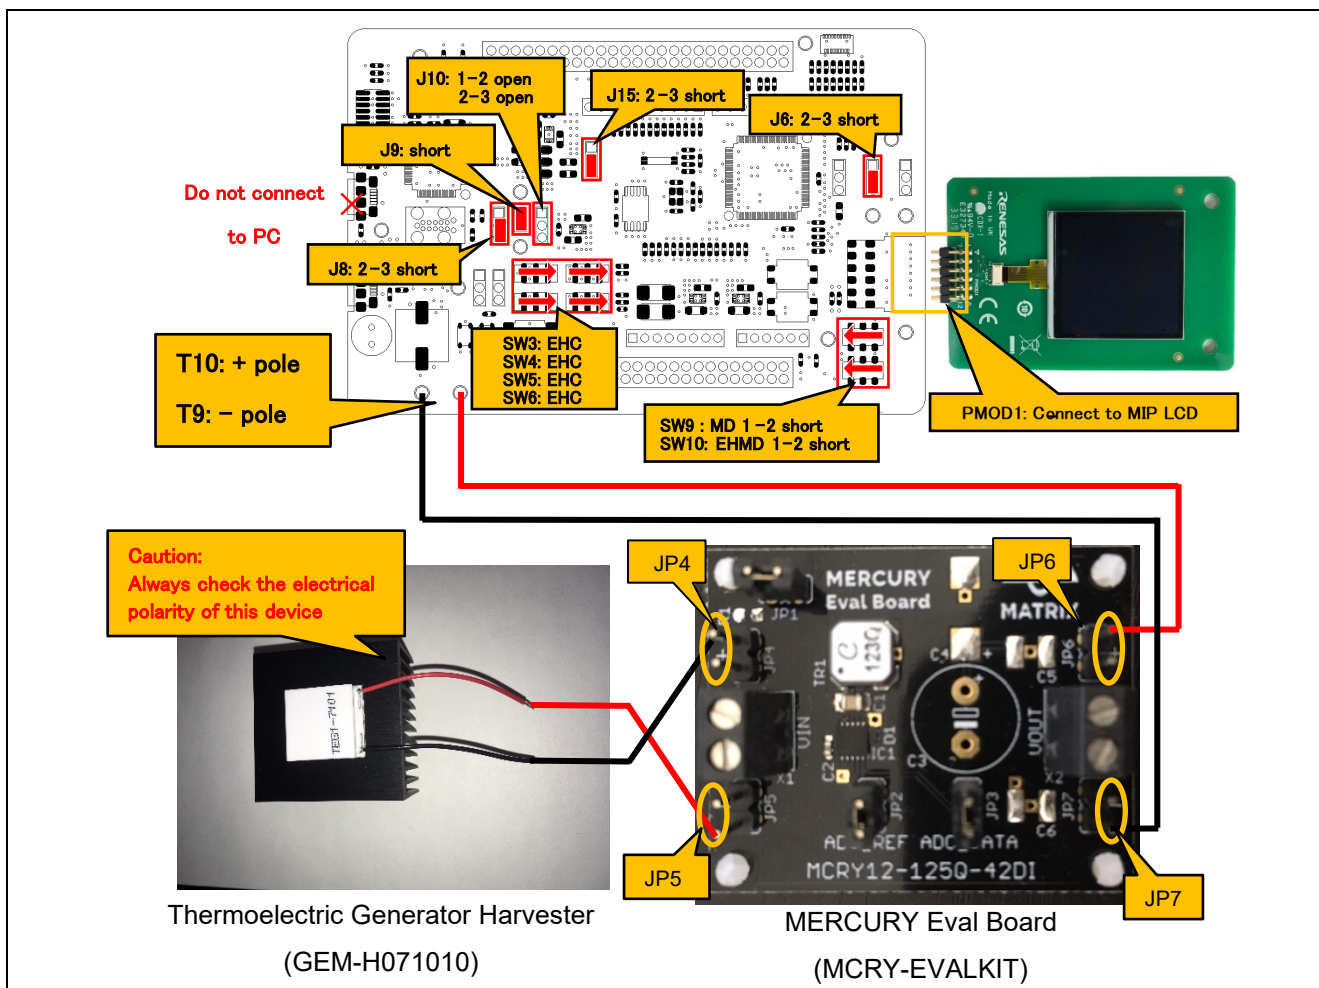

Figure 2.6 Board settings during energy harvesting operation (using thermolectric generator harvester)
Evaluation Kit RE01 256KB Board, thermoelectric generator harvester (sold separately), and MERCURY Eval Board (sold separately) are required. Connect the required components by following the setting shown in Figure 2.6
- Fig. 2.6 shows the board setting during energy harvesting operation (using thermoelectric generator harvester)
To run the demonstration, connect the MERCURY Eval Board, thermolectric generator harvester, and Evaluation Kit RE01 256KB Board as shown in Figure. 2.6. Thermolectric generator harvester harvests the power generated from temperature difference between human body and room temperature. MERCURY Eval Board is used to increase the voltage generated by the thermolectric generator harvester to a level that can support Evaluation Kit RE01 256KB Board operation.